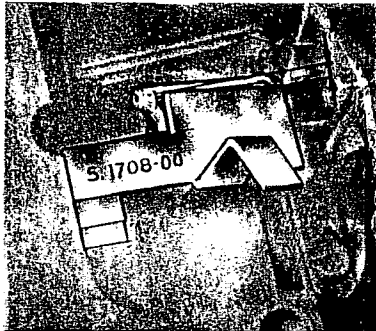

fig. 12
- Check angle of looper using gauge No. S 1708 (fig. 12).